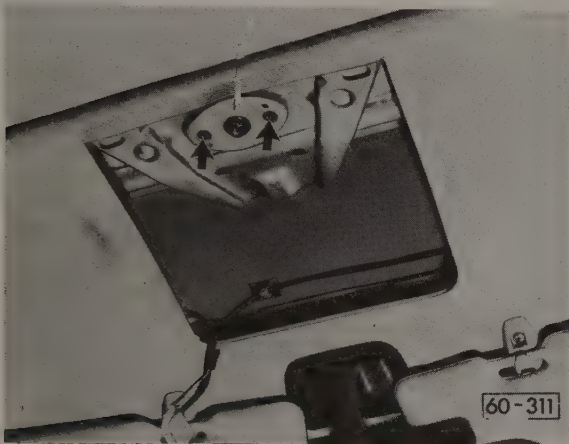

Fig. 7-9. Cable drive retaining screws (arrows) to be removed.
4. Turn the crank 1/2 turn to open the sunroof, then remove the crank handle. Remove the interior dome light, and pry out the crank handle trim panel at the rear. Remove the mounting screws from the cable drive as shown in Fig. 7-9, and remove the cable drive with the drive gear from above.
2. Remove the window crank and crank trim panel, and then remove the two screws and the cable drive as shown previously in Fig 7-9.